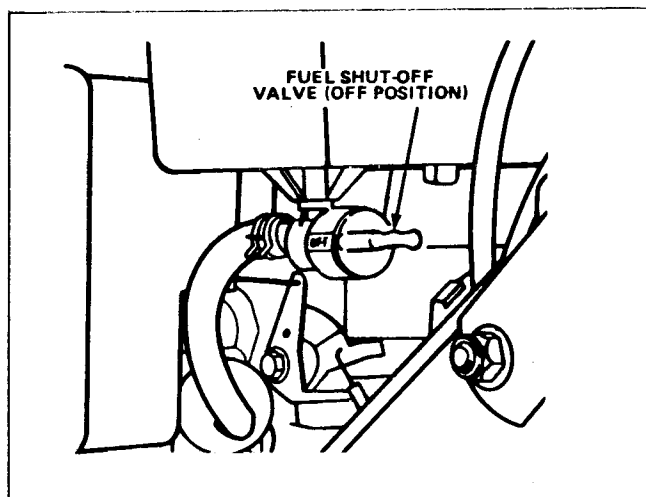

Figure 4
2. Turn the fuel shut-off valve to the OFF position. See Figure 4.